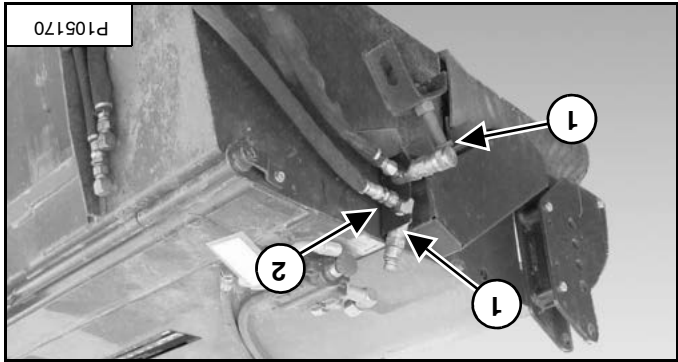

Figure 88
When the sweeper is not connected to the Telescopic Handler, install the hoses (item 1) into the hose hanger bracket (item 2) [Figure 88].